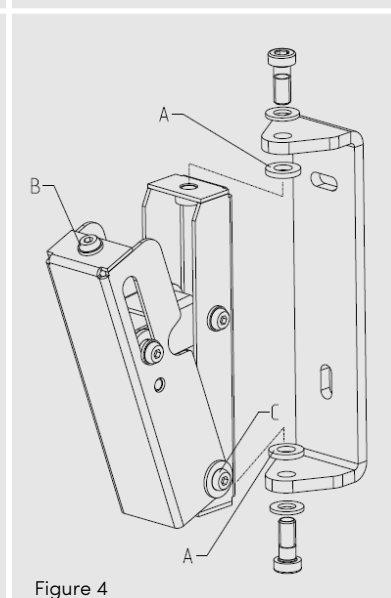
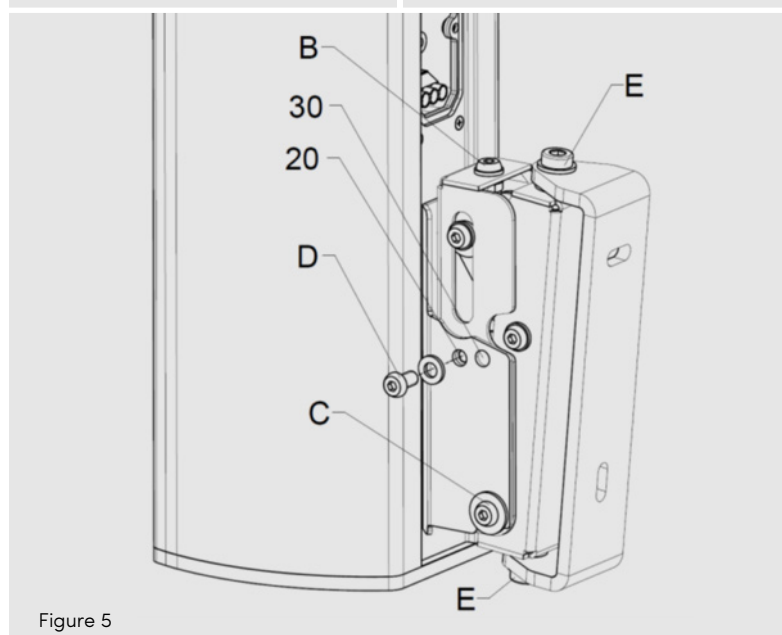

Figure 4
Figure 5
4. Fix the **WLX-100** or **WLX-221** to the building structure using two screws and wall plugs. To do this, you will need to disassemble the mounting bracket from the wall bracket. During installation, don't forget to place the two tooth-lock washers (A) between the mounting bracket and the wall bracket. Make sure that the wall bracket is mounted with the horizontal slot facing upward. **SEE FIGURE 4.**
5. Put the mounting bracket in a roughly vertical position by turning the adjustment spindle (B) to the right.
6. Place the loudspeaker and its mounting plate on the wall bracket. Both sides of the mounting plate must be resting on the screw (C). **SEE FIGURE 5.**
7. At this point the fixing screws (D) can be fitted and tightened with a torque of 8-10 Nm. There are two options here: If the front holes (20) are to be used, this will result in an adjustment angle of 0-20°; if the rear holes (30) are used, this will result in an adjustment angle of 10-30°.
8. Set up the required inclination angle by turning the adjustment spindle (B) to the left. If you need to reduce the angle again, turn the spindle back while pushing the speaker slightly up towards the wall bracket and thus releasing the spindle.
9. Loosen the clamping screws (E) on the horizontal axis and turn the loudspeaker to its required position.
10. Once you are happy with the loudspeaker's angle and rotation, tighten the clamping screws (E) with a torque of 20 Nm. Tighten the screws (C, F, G) with a torque of 8 to 10 Nm.